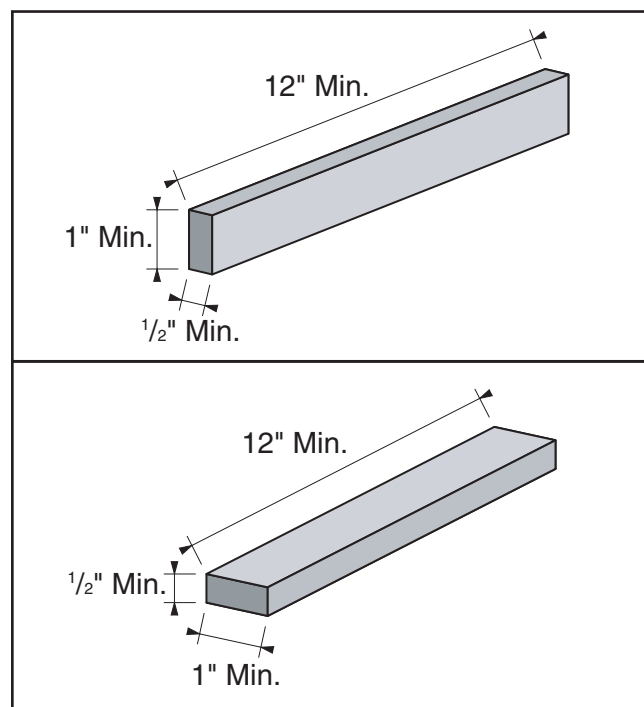

Figure 35. Minimum stock dimensions for the jointer.
- **Make sure your workpiece exceeds the minimum dimension requirements, as shown in Figure 35, before processing it through the jointer, or the workpiece may break or kick back during the operation.**